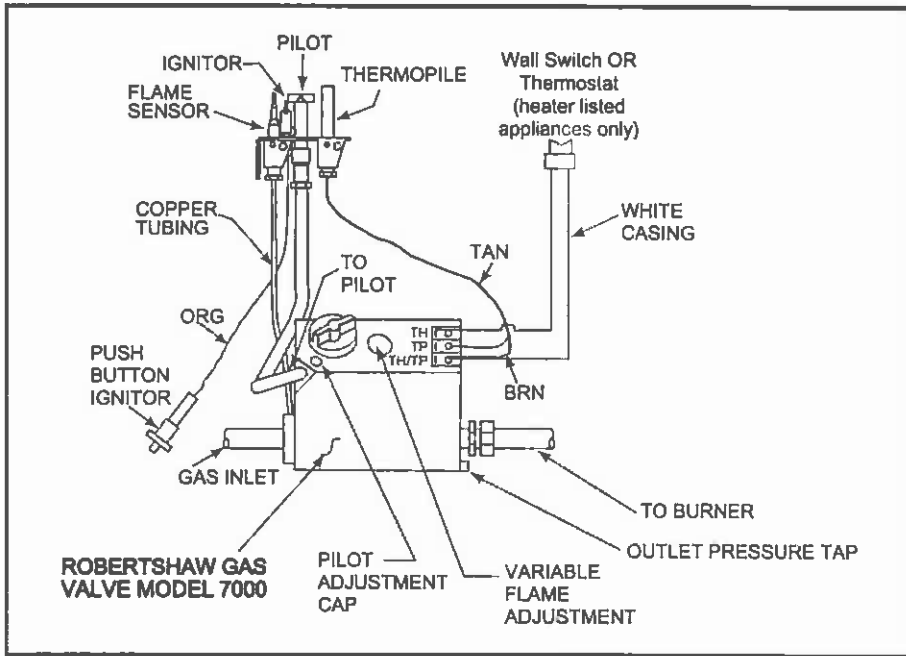

Figure 39 - Standing Pilot Ignition Wiring Diagram
- 2) Only heater listed appliances may be connected to a thermostat (not supplied). Use a thermostat that is compatible with a millivolt gas valve. See Figure 39.